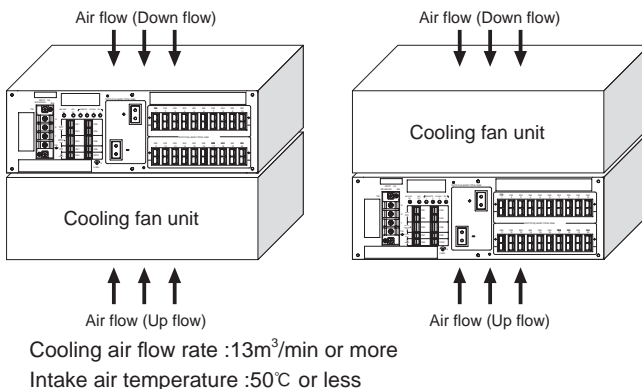
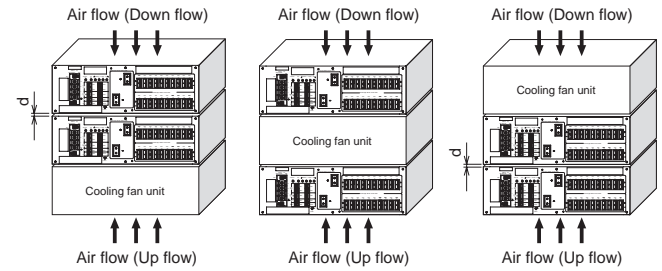
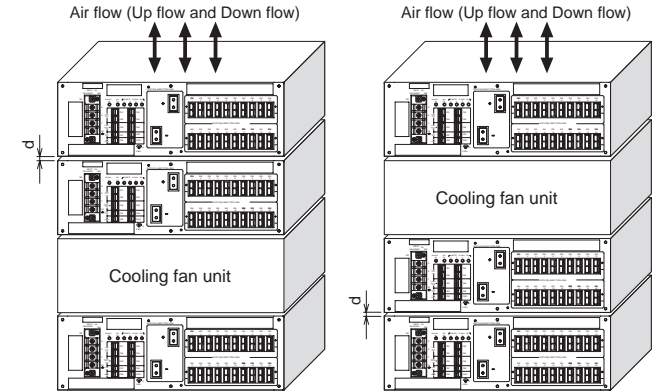

Fig.3.1 Cooling methods for use of single unit
Fig.3.2 Cooling methods for use of 2 units
Fig.3.3 Cooling methods for use of 3 units
- Number of stacked units is up to 3, as shown in Fig. 3.2 and Fig 3.3.
- Air flow direction is either Up or Down as shown in Fig. 3.2 and Fig 3.3.
- Fig. 3.1 to Fig. 3.3 show the position of cooling fan units.
① Cooling methods for use of single unit